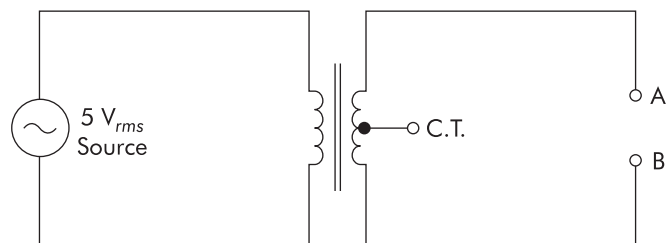

FIGURE 45-1 12.6-V center-tapped step-down transformer
1. Obtain a 12.6-volt transformer and connect the circuit shown in Figure 45-1.